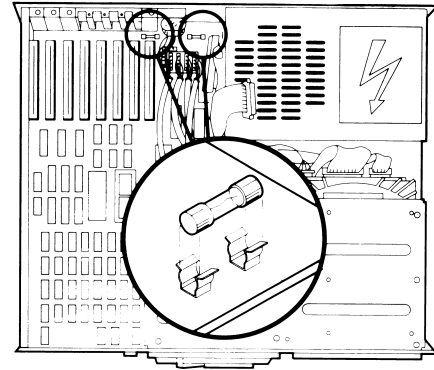

Figure 7-37. Location of the Keyboard and Monitor Power Fuse on the COMPAQ DESKPRO Personal Computer.
3. To replace the keyboard or monitor power fuse, lift the fuse out and replace it with a good fuse (Figures 7-37 and 7-38).